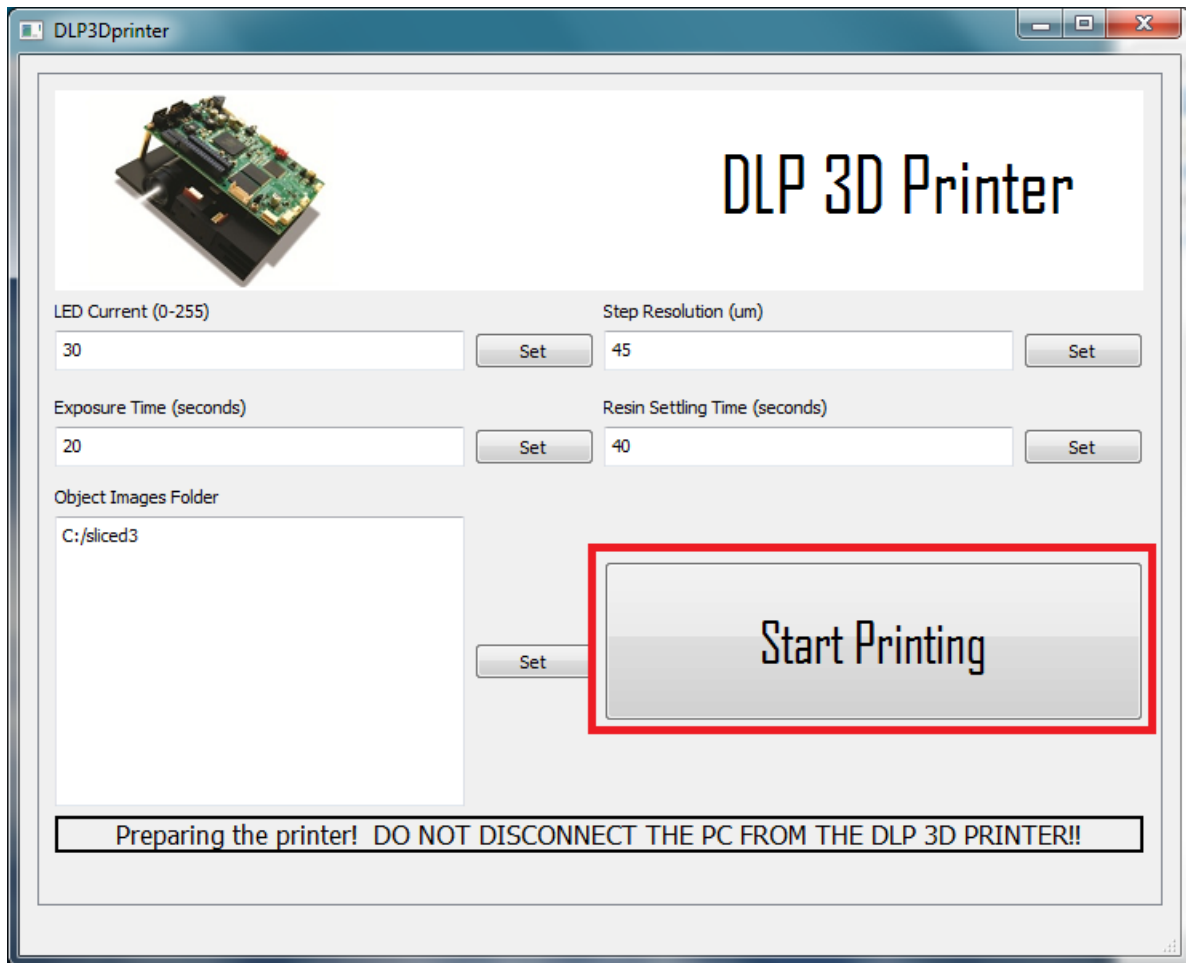

Figure 3-21. Starting The Print Sequence
5. After verifying the print settings, click the **Start Printing** button, as shown in Figure 3-21.